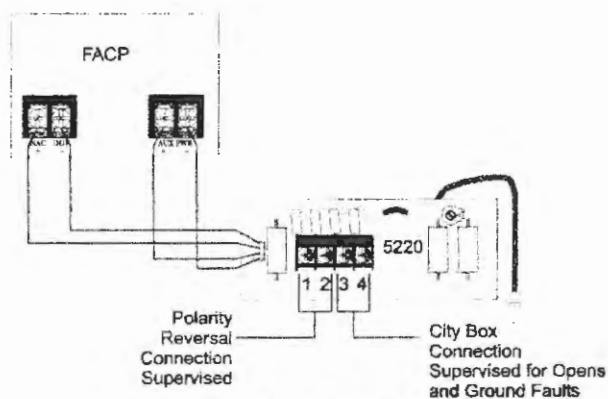

Figure 2: 5220 Wiring Connections
3. Wiring the 5220 as shown in Figure 2.
1. Connect the 5220 as shown in Figure 2.